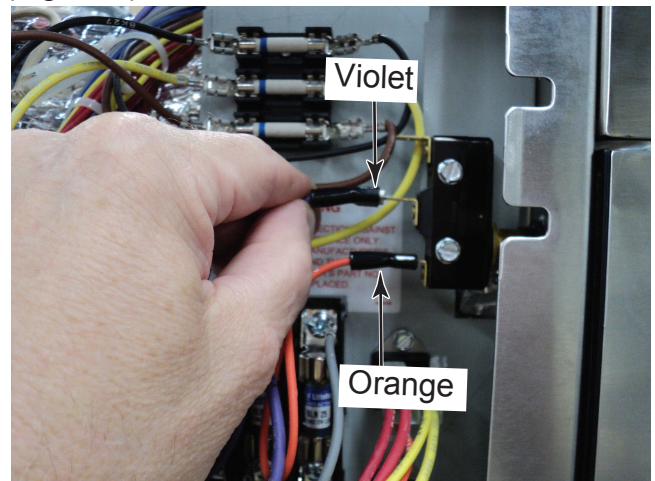

Figure 4
5. Disconnect wires from primary interlock switch (Figure 4).